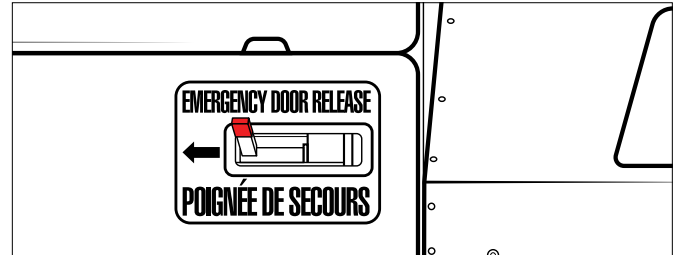

Figure 12 - Emergency release handle
1. Slide the red lever above the door to the left to unlock the door (**Figure 12**).